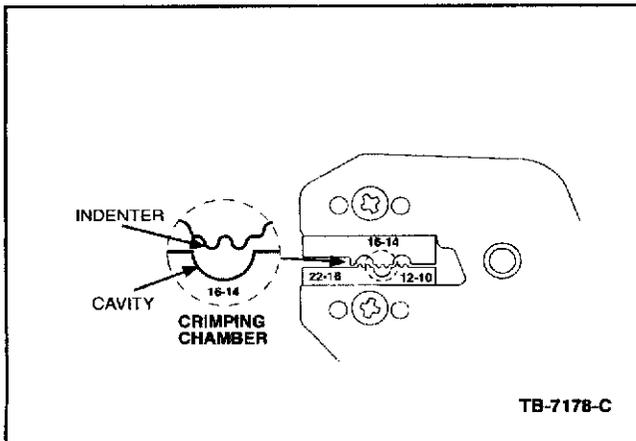

Figure 7 - Article 05-18-7
- Identify the appropriate crimping chamber of the Rotunda 164-R5901 Pro-Crimper (or equivalent) by matching the wire size on the dies with the wire size stamped on the butt splice (Figure 7). Hold the crimping tool so the identified wire sizes are facing you. Squeeze tool handles together until the ratchet releases, then allow the jaws of the tool to open fully.